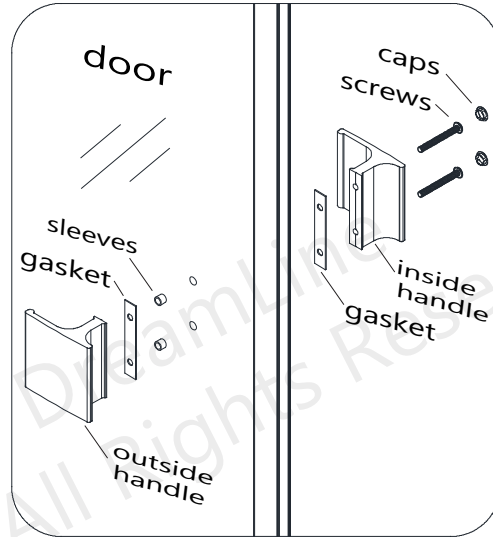

Fig 13
13. Install the **Handle (#11)** onto the **Door Glass (#06)** using the **ST4.2x10 Pan Head Screws (#13)** and one gasket per side to prevent glass to metal contact. Cover the handle screws with the decorative caps. **(Fig 13)**